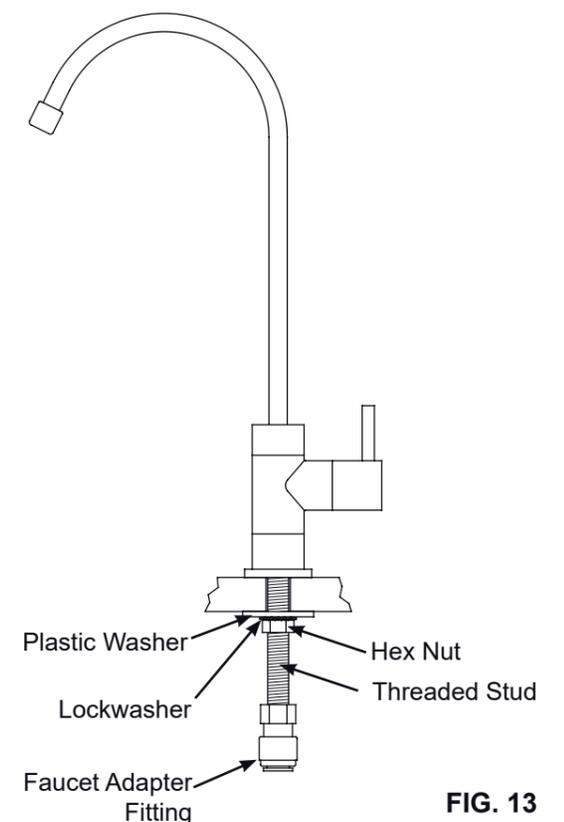

FIG. 13
5. Locate the faucet adapter fitting, and thread it onto the stud base, as shown in Figure 13. Do not overtighten.